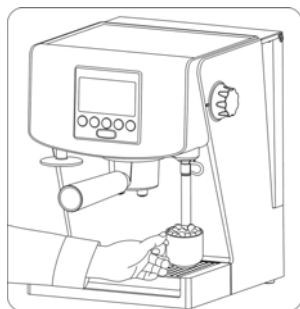

Fig. 8
15.7. Place the steam nozzle (10) in the milk pot (**Fig. 8**) in such a way that the nozzle is about 1/2 cm below the level of milk and activate the steam trigger turn the steam control (12) to position  | , i.e. turn it counterclockwise, so the sign  |  will cover the casing of the espresso machine.
- Close off steam as soon as milk is heated up to 60–65°C turn the steam control (12) to **OFF** position, i.e. turn it clockwise, so the sign **OFF** will cover the marker on the casing of the espresso machine.
- Remove the pot. Immediately wipe the steam nozzle (10) and its ending with a clean, wet cloth, as well as rinse it with a small amount of steam as before the process of milk foaming.